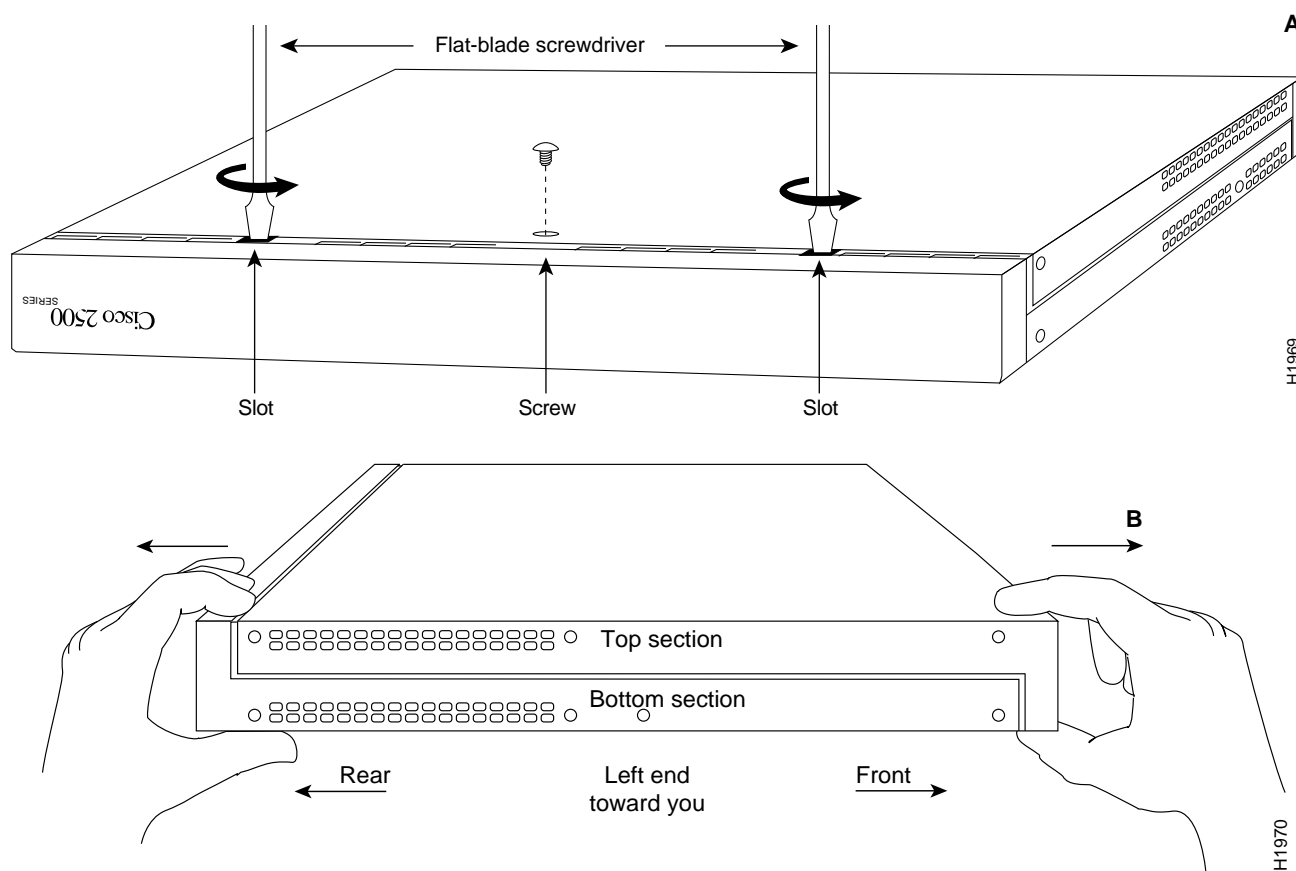

Figure 1 Chassis Cover Removal—Part A (Top) and B (Bottom)
Open the router chassis to gain access to its interior components: the system card, system code SIMMs, and DRAM SIMMs. Following are the steps required to remove the chassis cover. When opening the chassis, use Parts A and B in Figure 1 as guides.
Step 3 Turn the unit upside down so that the top of the chassis is resting on a surface, and the front of the chassis is toward you. (See Figure 1, Part A.)
Step 5 If required, insert a medium flat-blade screwdriver into the slots shown in Figure 1, Part A, and gently rotate the blade so that the top and bottom sections separate slightly.
Step 6 Holding the chassis with both hands, position it as shown in Figure 1, Part B.
Step 7 Gently pull the top section away from the bottom section. (See Figure 1, Part B.) The fit is very snug, so it may be necessary to work the chassis sections apart at one end and then the other, working back and forth.